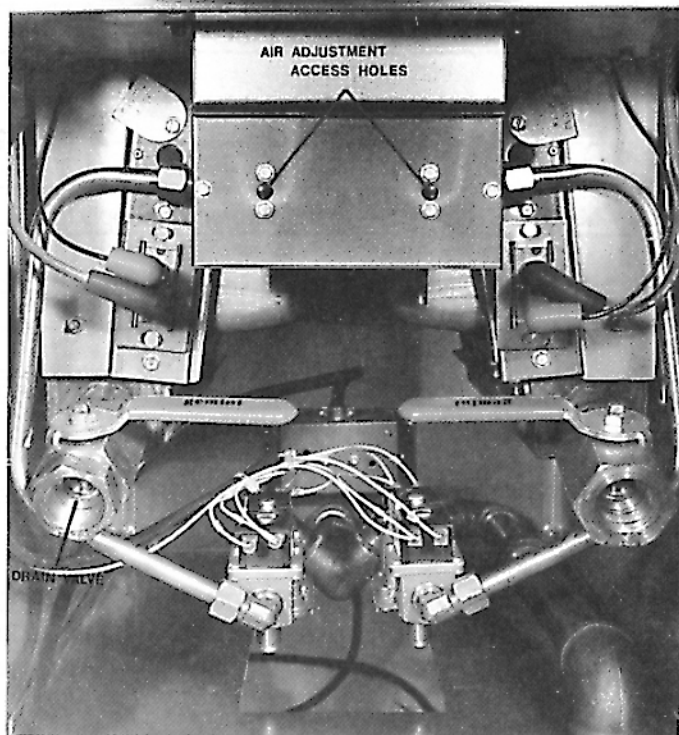

Fig. 2
Let burner run approximately 1 minute. See Fig. 2 and follow Steps 1 through 4 below.
1. Remove black plug bottom from the air adjustment box of the burner side being adjusted (Fig. 2).